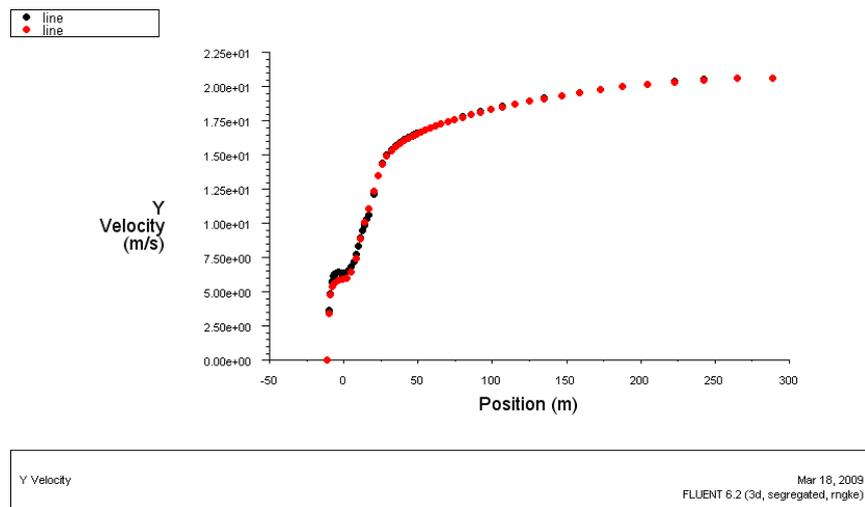

Fig. 33 Y velocity vs. Z coordinate before and after the adaption.
*The Y velocity before and after the adaption will be plotted along Z axis (See Fig. 33).*